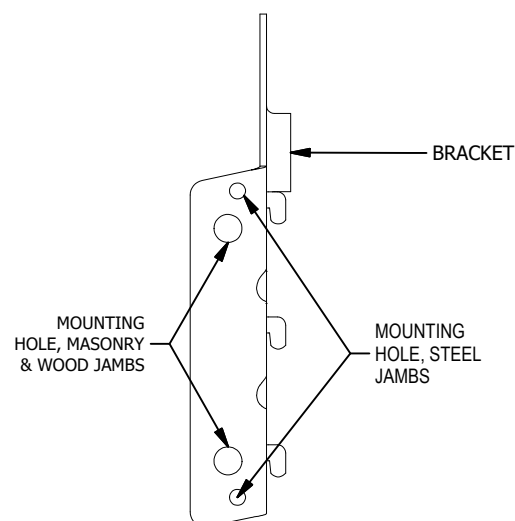

FIGURE 9: FASTENER PLACEMENT
- The appropriate fastener must be installed at each hole location in brackets and guides. See figure 9.